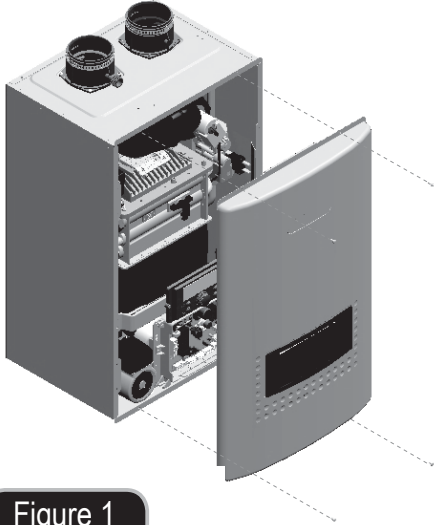

Figure 1
- ① Turn off both gas and water supply to the water heater. Turn the power off.
- ② Remove the front cover by loosening the 4 screws. (Figure 1)